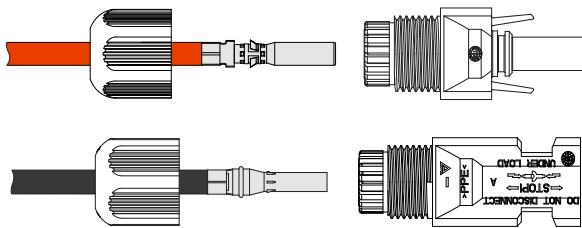

Figure3-38 Fasten the metal terminal
Step 6 Connect the BACKUP wire to the BACKUP port. As shown in Figure3-38.